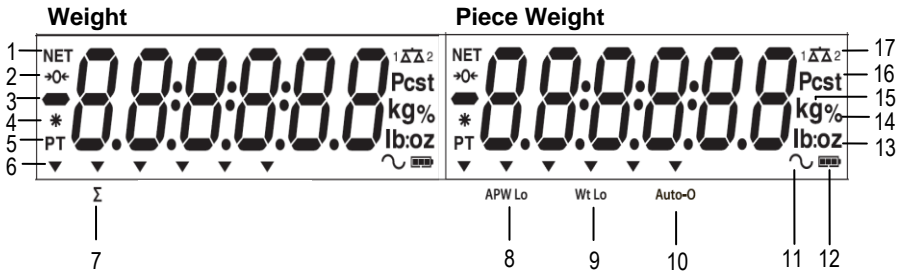

Figure 3-2. LCD Displays
During battery operation, the battery symbol (see item 9 in Figure 3-2) indicates the battery charge level. The scale will automatically turn off when the batteries are fully discharged.